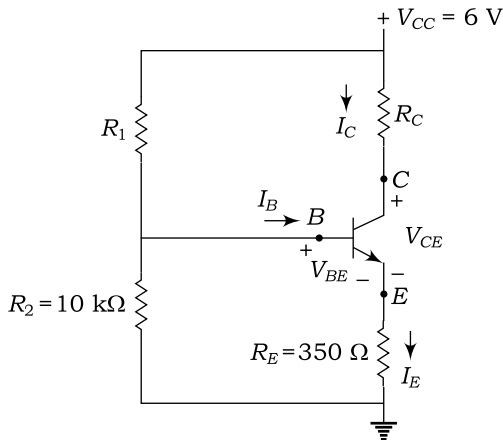

Fig. 2.121
48. The voltage-divider bias circuit of an *NPN* transistor is shown in Fig. 2.121. Calculate the value of R_1 and R_C when collector current is 1 mA and collector to emitter voltage is 2.45 V . Assume $V_{BE} = 0.7 \text{ V}$ and $\beta = 95$.